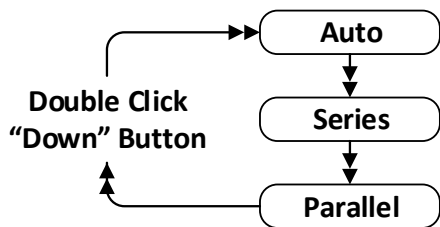

Figure 3-6: Switch Circuit Mode by Double Clicking the "Down" Button
- Double click the "Down" button to switch circuit mode as Figure 3-6 shows.